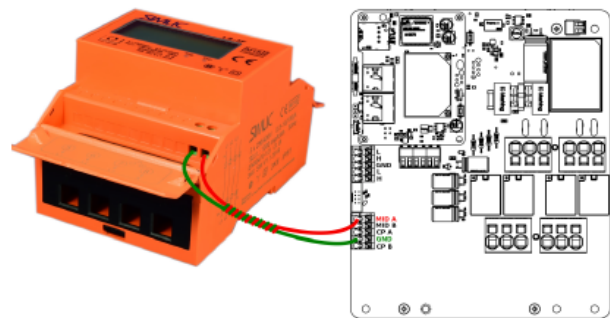

Fig. 28: Connection diagram of MID meter communication cables.
1. Connect the device to the dedicated socket on the PilotBox board. [Fig. 28]